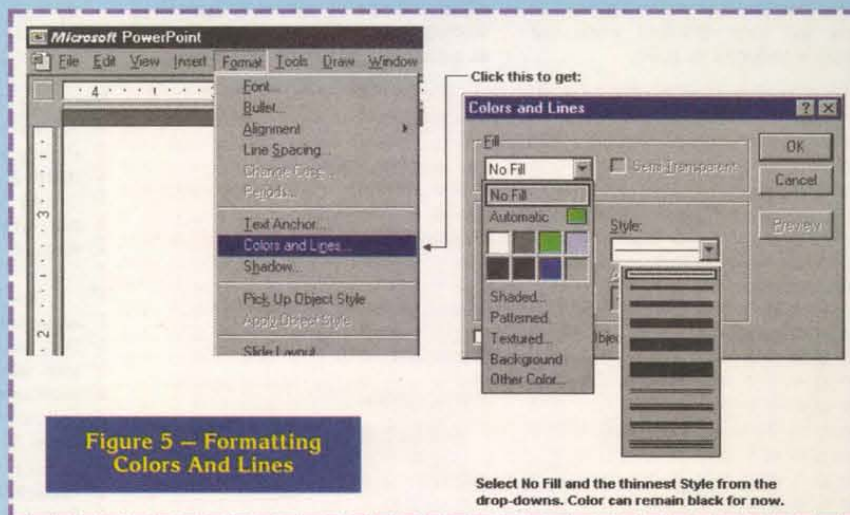

Figure 5 – Formatting Colors And Lines
b) Starting from the intersection of the guides, draw the smallest circle that PowerPoint will permit and then turn off Snap To Grid. In the Format menu, Colors and Lines dialog, click the No Fill Color choice and ensure that Style is at the thinnest line setting (Figure 5).